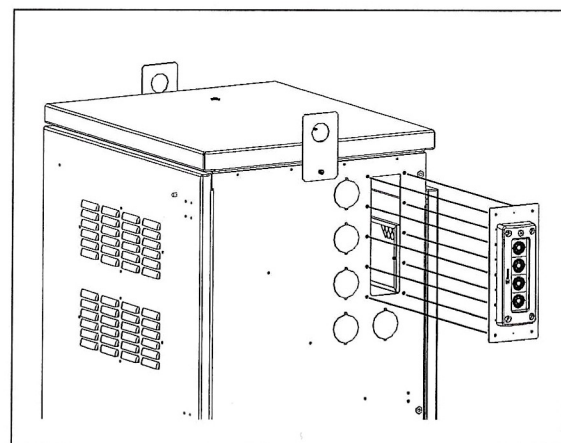

Figure 4 Install Roxtec Panel
3. Place the Roxtec panel against the CUBE so that the studs on the rear of the panel are aligned with the mounting holes in the CUBE. Secure in place from the inside of the CUBE using the Keps nuts that ship with the kit (Figure 4).